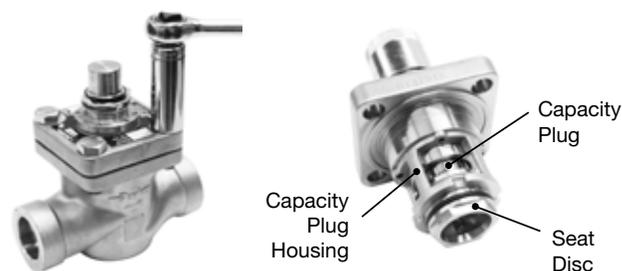

Figure 11: Removal of the PEV Port Plate Assembly
3. Remove the port plate by unbolting the bolts, as shown in Figure 11. If the port plate does not come apart easily, rotate the port plate 45° and use the corners to pry the port plate out. If using a tool such as a screw driver, it is important to be careful not to damage any gasket surfaces.